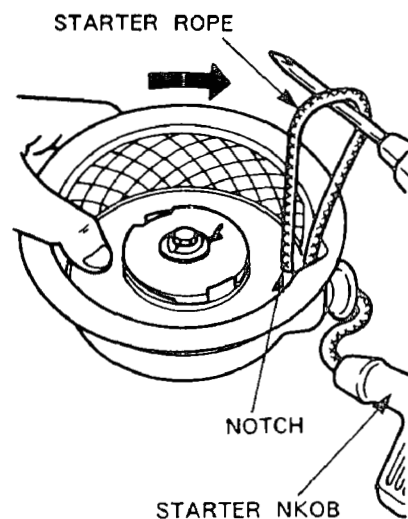

FIG. 79
- (1) Remove the recoil starter from the engine with a box spanner.
- (2) Pull the starting knob and pull out the starter rope for 30 to 40 cm. Firmly press the reel with a thumb as shown in Fig.79 so that the reel should not make reverse turn at the place where the reel notch comes to the outlet of starter rope. Pull out the starter rope to the inside of recoil starter with a screwdriver. Then, utilize the reel notch, and rewind it until the rotation stops in the arrowhead direction, braking the reel rotation with a thumb.
- (1) Pull the starting knob 2 or 3 times, and pull out the starter rope a little.
- (2) Pull the starting knob, and pull out the starter rope all the way long.
- a) If the starter rope remains left in the reel or the starter rope does not return at all, immoderate strain is imposed on the spring. So rewind the starter rope 1 or 2 times as per instruction in Fig.79.